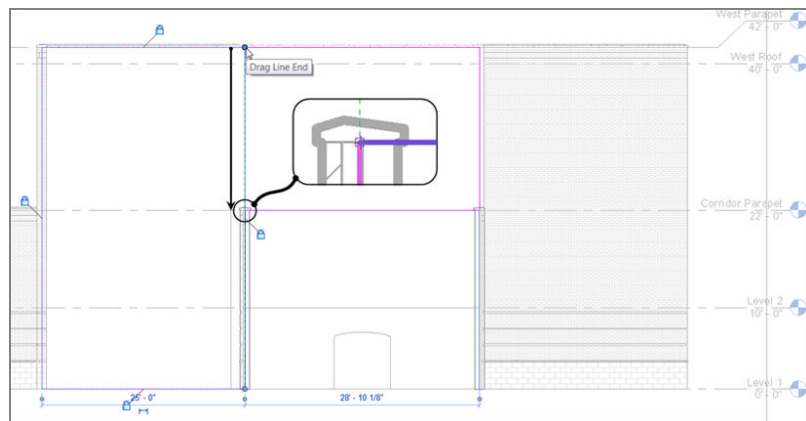

FIGURE 3.48: Closing the wall by using grips to stretch the line
13. Pick the top blue grip, and stretch the line down to Level 3. You now have a closed loop, as shown in Figure 3.48.